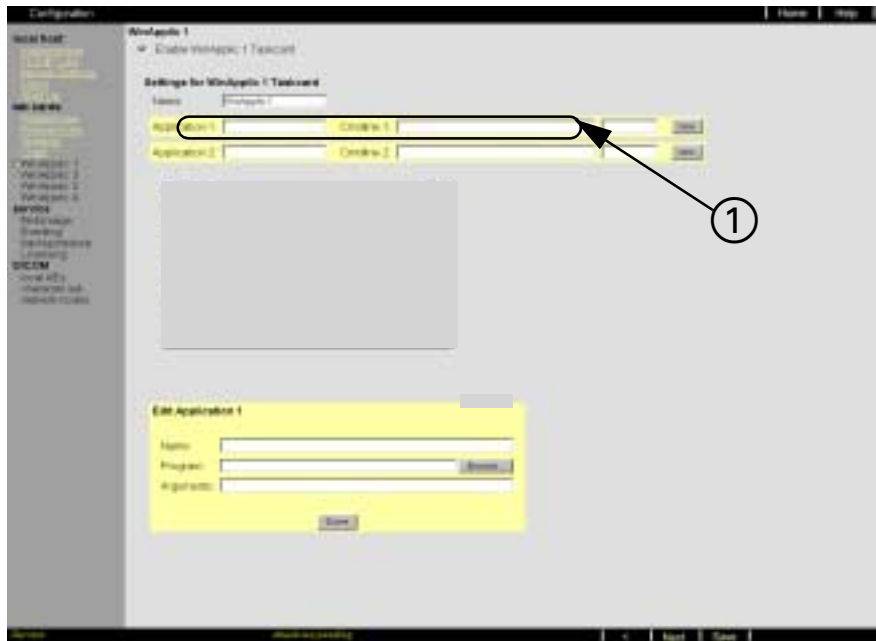

Figure 13-18 WinApplic Task Card Setting
4. Enter Name of Application Server in Application 1 (see ① in Figure 13-18) and continue with either step 4.1 or 4.2 below as appropriate:
- 4.1) Type **D:\Program Files\Plus!\Microsoft Internet\explore.exe** in "Cmdline1:" box (see ① in Figure 13-18), if connecting to WebServer.